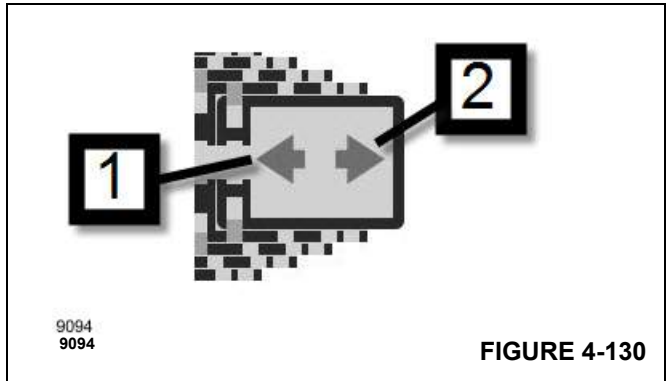

FIGURE 4-130
Telescoping will only start if left arrow for retracting (1), (Figure 4-130) or right arrow for extending (2), (Figure 4-130) is shown in the indicated location of the operating display screen (either the semi-automation or manual telescoping screen).